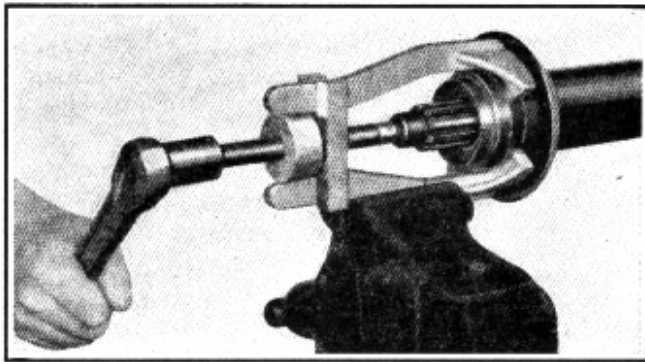

Fig. 49—Removing Propeller Shaft Intermediate Bearing
11. Mount the special puller, J-1619, in a bench vise and fit the jaws of the puller in behind the bearing outer race. Turning the screw of the puller will remove the bearing from the shaft, Fig. 49.